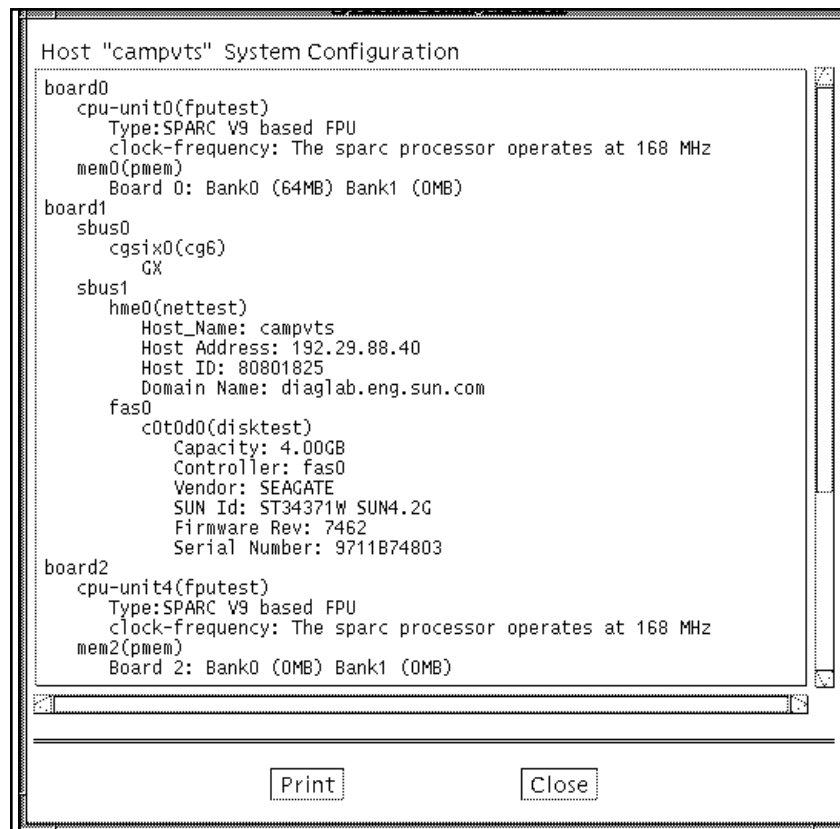

FIGURE 3-16 System Configuration
- To display a listing of the hardware on the test system and their corresponding hardware tests (see FIGURE 3-16) select **System configuration**.